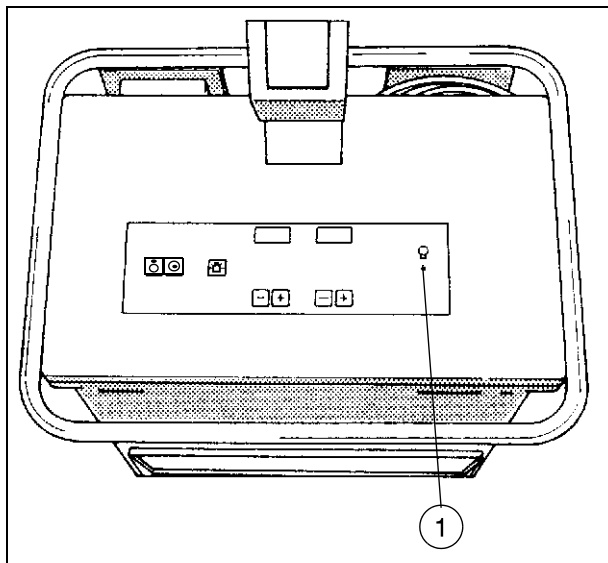

Fig. 9:
- Release an exposure. The radiation indicator (1//Fig. 9 / p. 31) must light up during the exposure; at the same time, an acoustic signal sounds.